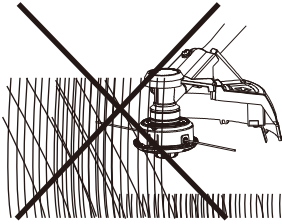
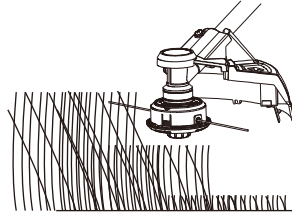

Fig. 24
Fig. 25
6. Ensure the cutting device remains clean and free from off-cuts that may cause it to jam. Check regularly. Release the on/off switch (1) and disconnect the product from the power supply before checking.
7. Trim longer grass in stages; do not cut long grass in one cut (Fig. 24). For the best results, cut longer grass in steps (Fig. 25).